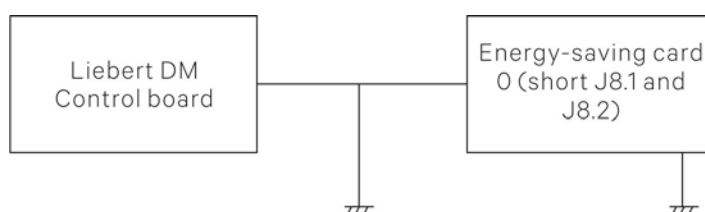
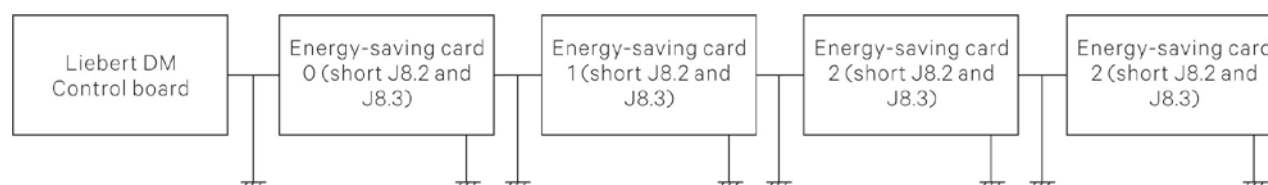

Figure 2-22 Connection of single card
Figure 2-23 Connection of multi-cards
- Figure 2-22 and Figure 2-23 indicates the connection modes of a single card and multi-cards respectively.